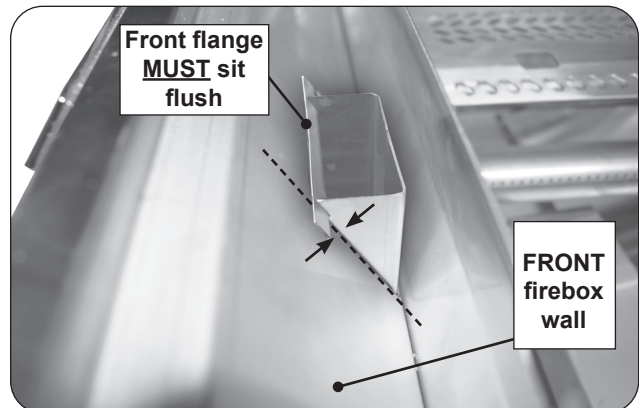

Fig. 41-3 Drip tray chute installed
3. To replace, drop the chute back into the top and bottom cutouts of the front firebox wall. The front flange MUST sit flush against the firebox wall. See Fig. 41-3.